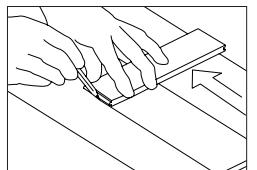

Figure 14
- **Sacrificial board:** If the wall is not straight, scribe the first board (Figure 14) as necessary to maintain alignment with the chalk line. Install a sacrificial board (with a straight edge) using the appropriate fasteners for the subfloor. If a board is used for the starter row make certain the groove faces the wall.
- **Wedges:** Align the first row with the wall using wedges to maintain a 1/2" (13 mm) expansion in place and to stabilize the product. If the wall is not straight, scribe the first board (Figure 14) as necessary to maintain alignment with the chalk line.